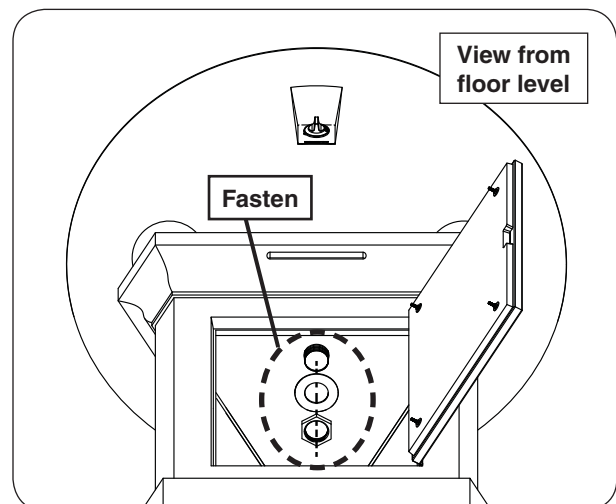

Fig. 28-2 Mount pedestal - fasten assembly
4. From within the pedestal, install the washer followed by the nut onto the conduit mount (that is protruding down into the pedestal). GENTLY tighten the 2 3/8" size nut using an adjustable wrench (or equivalent). See Fig. 28-2.